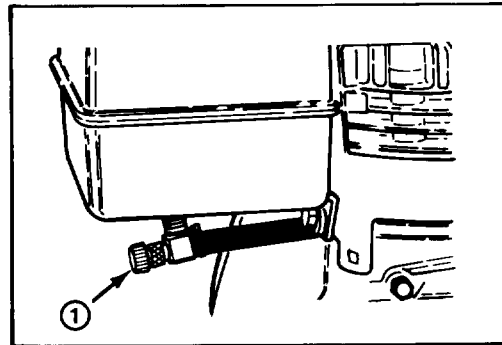

Figure 11
**Fuel Shut-Off Valve** (Fig. 11) — Valve is located under fuel tank. Close valve to stop fuel flow from fuel tank and open valve to allow fuel to flow to the carburetor. Close valve when snowthrower is not used.
2. Open fuel shut-off valve below fuel tank (Fig. 11).